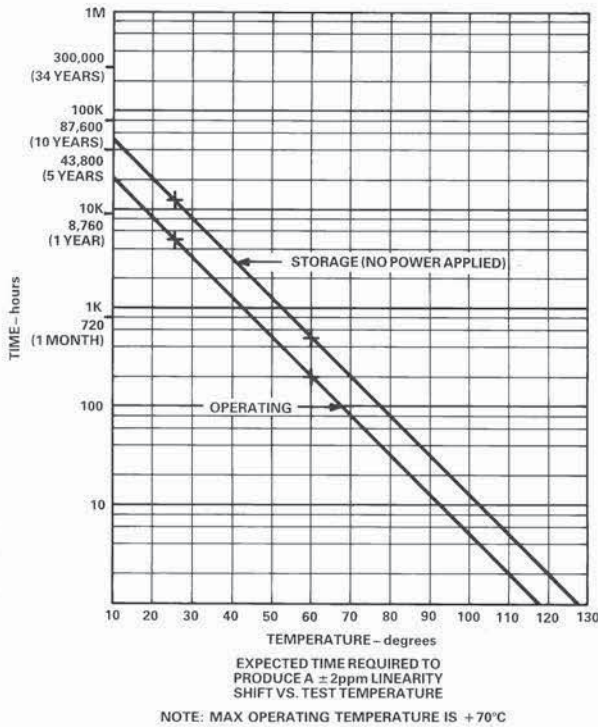

Figure 7. Nonlinearity vs. Time/Temperature
- 4See Figure 7 for typical long-term linearity stability vs. temperature. Also, see the BURN-IN section on page 6 for caution against preconditioning by the user.
Figure 7 shows how long it would take for the AD1139's linearity to drift  $\pm 2\text{ppm}$  ( $1/2\text{LSB}$ ) at any operating temperature. The uppermost plot shows stability under storage conditions (no power), and the lower plot shows the AD1139's operating stability (under power). The *operating vs. storage* difference is due to the  $10^\circ\text{C}$  temperature rise when the AD1139 is powered.
As shown in Figure 7, exposure to elevated temperatures produces an acceleration of the normal aging process. Preconditioning/burn-in employed by the user will lead to premature linearity shifts outside of the initial guaranteed specifications. The ADI warranty will not cover DACs that exhibit this type of *forced* premature specification degradation.